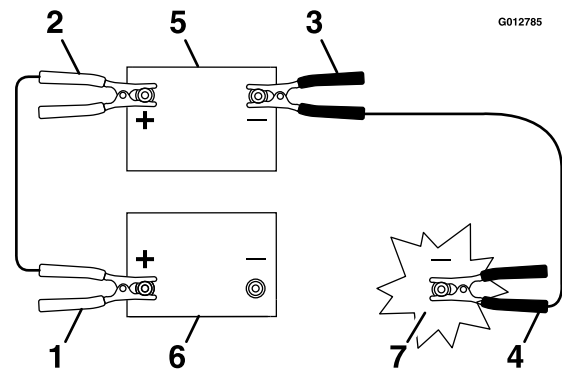

Figure 62
5. Connect the positive (+) cable to the positive (+) terminal of the discharged battery that is wired to the starter or solenoid as shown in Figure 62.